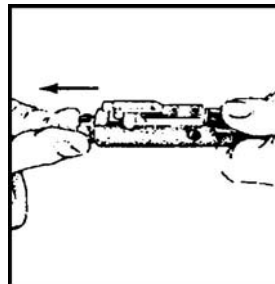

Figure 31. Pulling back on the bolt.
- h. Pull the bolt back (Figure 31).